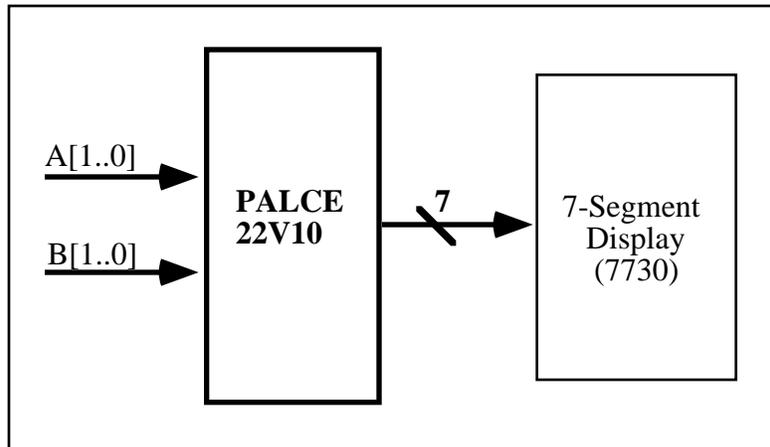

Figure 2: Part II Block Diagram
- a) In this part of the lab, you will implement your 2-bit adder using a Programmable Array Logic (PAL) device. The entire combinational network designed in Part I can fit onto a single PAL chip, as shown in Figure 2. (Note that in this part you do not need to include the carry-in bit, C_0 , although you can include it if you choose. Since 5-variable Karnaugh maps are difficult to work with, we have reduced the number of input variables to 4.)